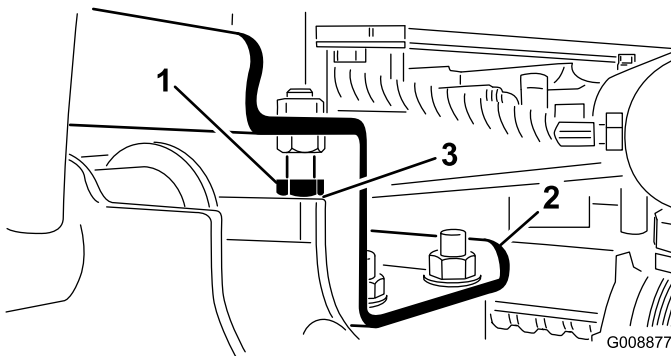

Figure 9
- A. Back off the stop bolts (Figure 9).
2. Check to make sure that the clearance between each lift arm and stop bolt is 0.005 to 0.040 inches (0.13 to 1.02 mm) (Figure 9). If the clearance is not in this range, adjust the stop bolts to attain clearance.